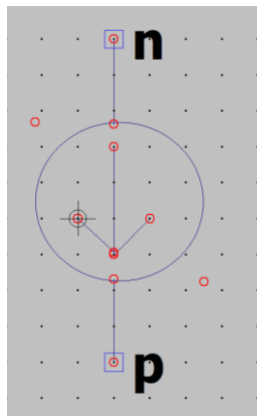

Fig. 10. SET symbol
13. The SET generator symbol needs to be created: File / New Symbol. The symbol is drawn from the elements available in the Draw tab, such as Line, Circle ... After drawing the symbol, pins should be added to it: Edit / Add Pin / Port. Enter *n* and *p*, respectively, in the Label field, since these are the names of the pins in the SET model (Fig. 10).